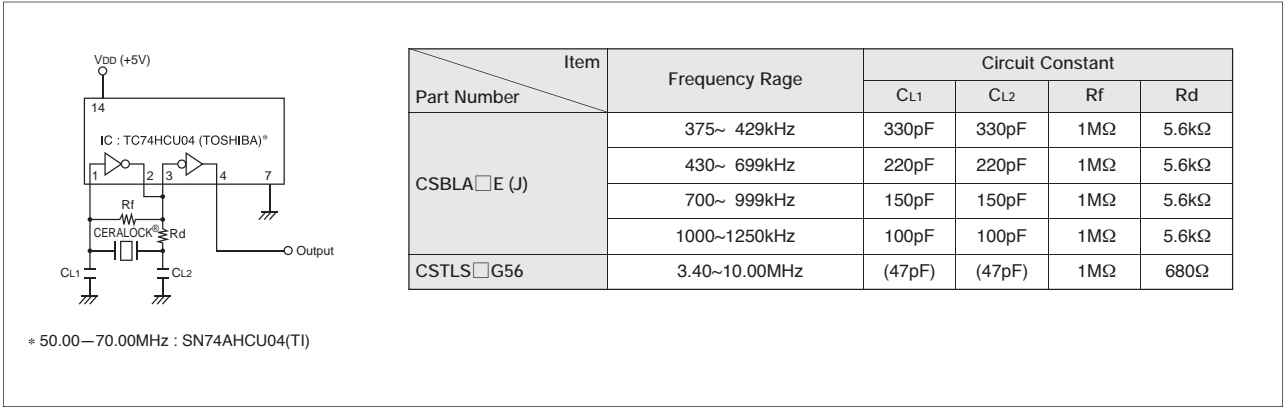

Fig. 4-3 H-CMOS Standard Circuit
Fig. 4-3 shows our standard H-CMOS circuit.
Since H-CMOS has high gain, especially in the high frequency area, greater loading capacitor (CL) and damping resistor (Rd) should be employed to stabilize oscillation performance. As a standard circuit, we recommend Toshiba's TC74CU04, but any 74HCU04 inverter from other manufacturers may be used. The oscillation frequency for H-CMOS specifications is adjusted by the circuit in Fig. 4-3.